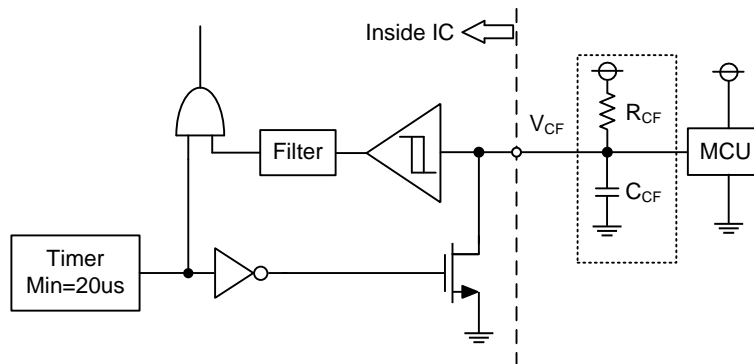

Figure 5. VCF Output Circuit
- (1) If the control GND is connected with the power GND by common broad pattern, it may cause malfunction by power GND fluctuation. It is recommended to connect the control GND and power GND at a single point (N1), near the terminal of the shunt resistor.
- (2) There are two COM pins in the IPM but it is recommended to only use the (15) COM pin to minimize SC detection noise.
- (3) A zener diode D1 (24V/1W) is recommended between each pair of control supply pins to prevent surge destruction.
- (4) Prevention of surge destruction can further be improved by placing the bus capacitor as close to pin P and N1 as possible. Generally a 0.1-0.22μF snubber capacitor C3 between the P-N1 terminals is recommended.
- (5) Selection of the R1\*C4 filter components for short-circuit protection is recommended to have tight tolerance, and is temperature-compensated type. The R1\*C4 time constant should be set such that SC current is shut down within 2μs; (typically 1.5-2μs). R1 and C4 should be placed as close as possible to the CSC pin. SC interrupting time may vary with layout patterns and components selection, therefore thorough evaluation in the system is necessary.
- (6) Tight tolerance and temperature-compensated components are also recommended when selecting the R2\*C5 filter for VOT. The R2\*C5 time constant should be set such that VOT is immune to noise. Recommended values of R2 and C5 are 2kΩ and 10nF.
- (7) To prevent malfunction, traces A, B, and C should be as short as possible.
- (8) It is recommended that all capacitors are mounted as close to the IPM as possible. (C1: electrolytic type with good temperature and frequency characteristics. C2: ceramic type with 0.1-2μF, good temperature, frequency and DC bias characteristics.)
- (9) Input drives are active-high. There is a minimum 3.5kΩ pull-down resistor in the input circuit of IC. To prevent malfunction, the layout to each input should be as short as possible. When using RC coupling circuit, make sure the input signal levels meet the required turn-on and turn-off threshold voltages.
- (10)  $V_{CF}$  output is open drain type. It should be pulled up to MCU or control power supply (max=  $5\pm 0.5V$ ), limiting the current ( $I_{CF}$ ) to no more than 1mA.  $I_{CF}$  is estimated roughly by the formula of control power supply voltage divided by the pull-up resistor R3. For example, if control supply is 5V, a 10kΩ (over 5kΩ) pull-up resistor R3 is recommended.
- (11) If only a pull-up resistor R3 of 10kΩ connected to  $V_{CF}$  pin, the fault output pulse width is fixed at minimum 20us. If a capacitor C6 is connected with a pull-up resistor R3, the fault output pulse width can be controlled according to the resistor value and capacitor value. For the design guide, please refer to the Figure 5.
- (12) Direct drive of the IPM from the MCU is possible without having to use opto-coupler or isolation transformer.
- (13) The IPM may malfunction and erroneous operations may occur if high frequency noise is superimposed to the supply line. To avoid such problems, line ripple voltage is recommended to have  $dV/dt \leq \pm 1V/\mu s$ , and  $V_{ripple} \leq 2V_{p-p}$ .
- (14) It is not recommended to use the IPM to drive the same load in parallel with another IPM or inverter types.